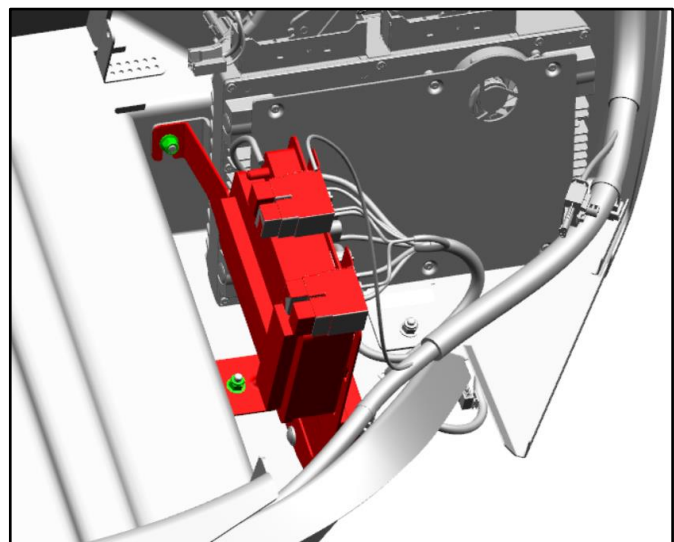

Figure 7
14. Remove the two nuts that attach the bracket for the rear fuse box to the vehicle. (Refer to Figure 7.)